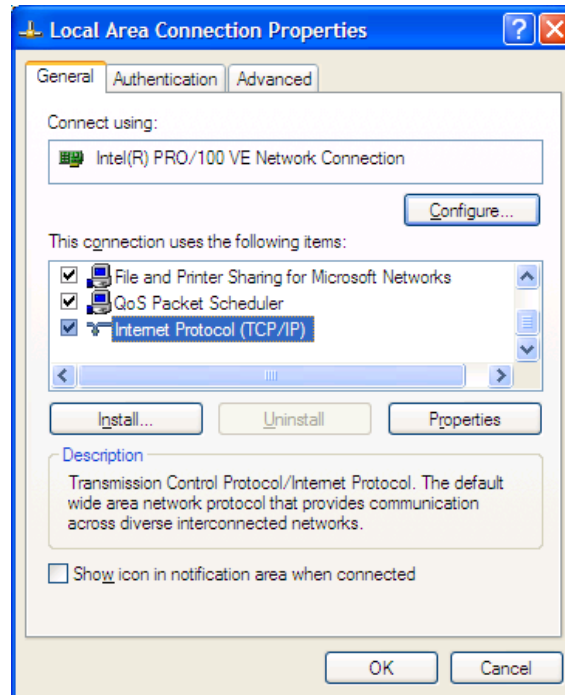
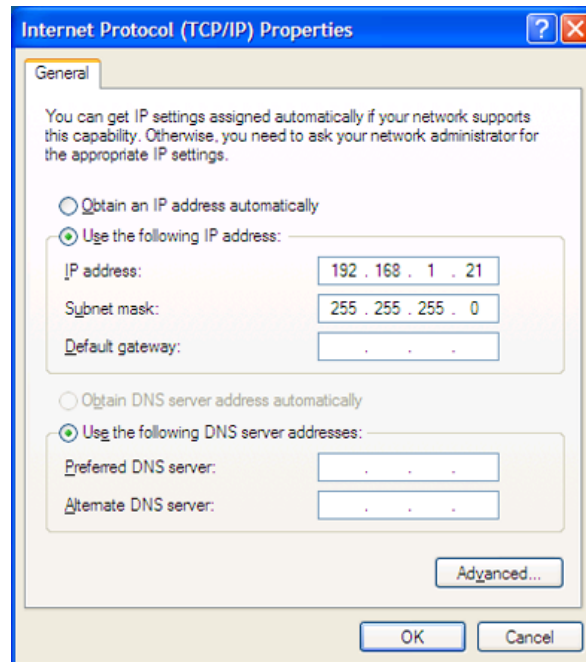

Figure 5. The Local Area Connection Properties Dialog
Figure 6. The Internet Protocol Properties Dialog
6. In the Local Area Connection Status dialog box, click the Properties button. The Local Area Connection Properties dialog box appears, as shown in Figure 5.
7. In the panel labeled This connection uses the following items:, select the Internet Protocol (TCP/IP) item to highlight it, and click the Properties button (see Figure 5 for an example). The Internet Protocol (TCP/IP) Properties dialog box appears, as shown in Figure 6.